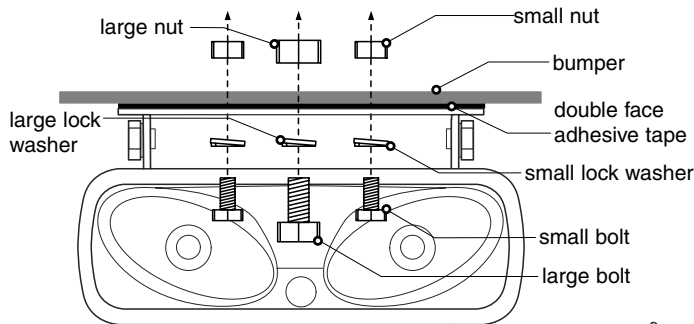

Figure 1
2. Using 1/4" drill bit, drill mounting holes for lamp bracket and install bolts, lock washer and nuts (Do not over tighten). (Figure 1)